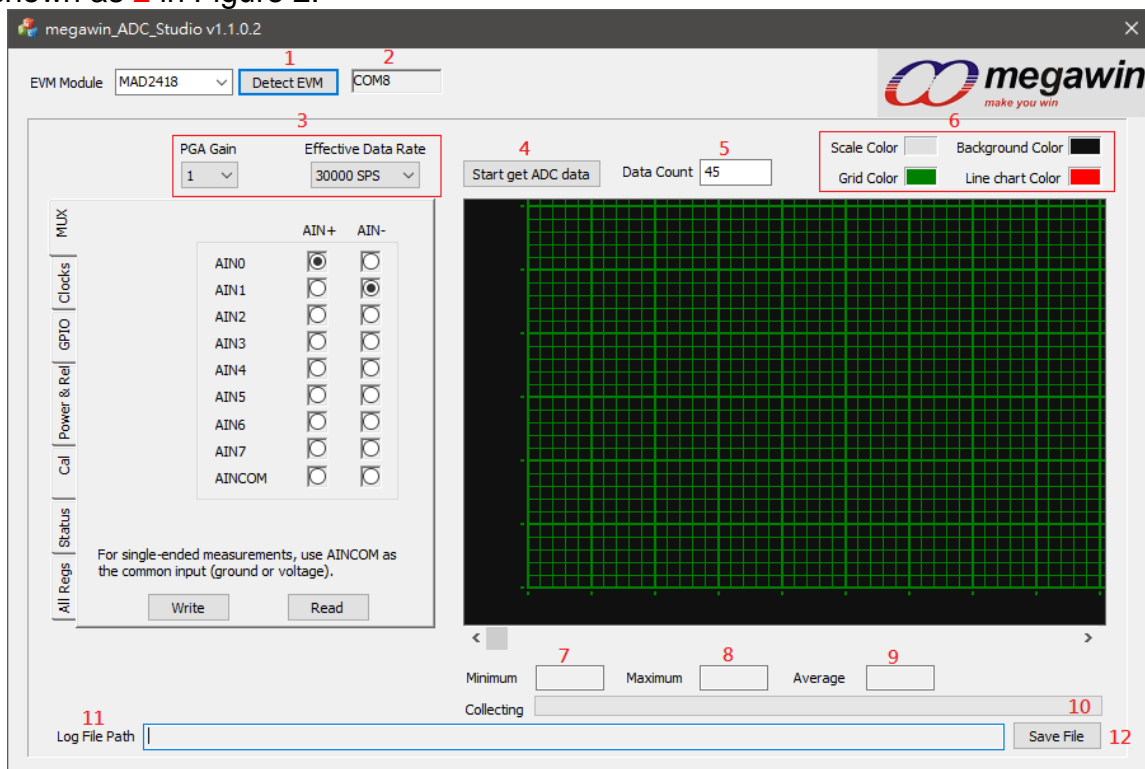

Figure 2
2.2 Select MAD2418 in EVM Module then click “Detect EVM”( 1 as shown as Figure 2). megawin ADC studio will find the proper com port and show the com port number as shown as 2 in Figure 2.
2.3 The left side of megawin ADC Studio has setting tabs for Mux channels, Cal. Reg..., as shown 3 in Figure2, user can set PGA Gain, Effective , and Data Rate. Can click "Write" or "Read" to write or read setting.
Start get ADC data : Start to get date from ADC (as shown 4 in Figure 2).
Data Count : the counts for ADC data, the default is 45(as shown 5 in Figure 2).
Scale Color 、 Background Color 、 Grid Color and Line chart Color : User can set the color for display (as shown 6 in Figure 2).
Minimum : The minimum value of ADC data, decimal. (as shown 7 in Figure 2) ◦
Maximum : The maximum value of ADC data, decimal. (as shown 8 in Figure 2) ◦
Average : The average value of ADC data, decimal. (as shown 9 in Figure 2) ◦
Collecting : The process status of getting ADC data. (as shown 10 in Figure 2) ◦
Log File Path : The path of log file and user can save file for ADC data in log file. (as shown 11 in Figure 2) ◦
2.6 Save File : megawin ADC studio will plot graph after getting ADC data. It will save file as CSV and binary file format as two files after click "Save File" (as shown 12 in Figure 2).